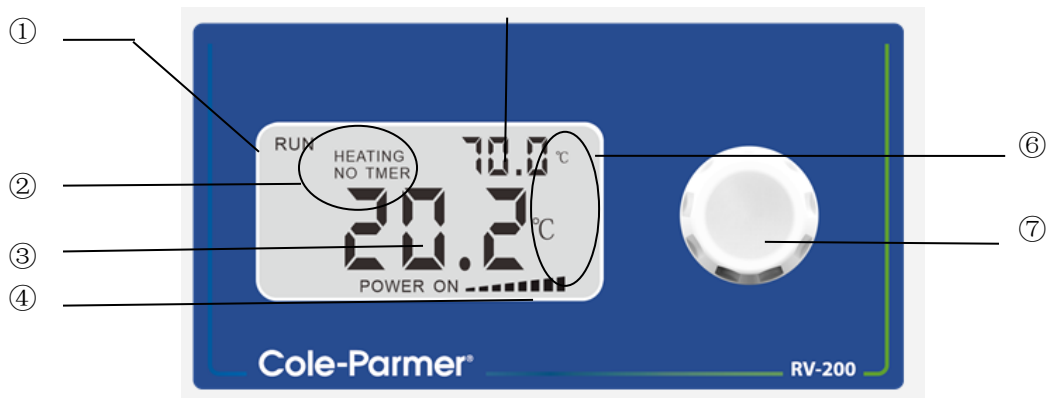

Figure 6
| (7) Water bath control panel (see Figure 6) | (8) Condenser |
Water bath operating instructions for control panel (Figure 6)